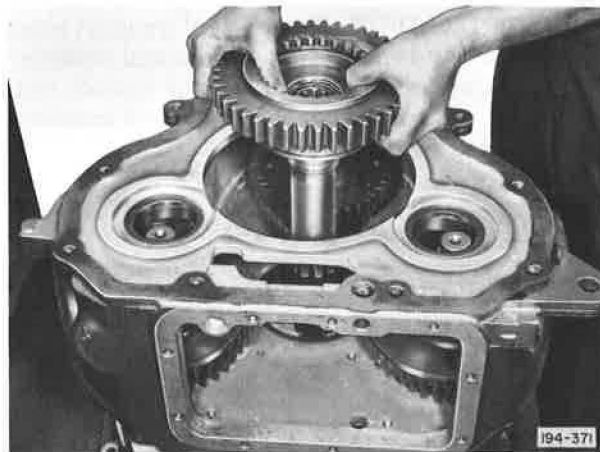

Figure 5-161. Installing Compound Main Driving Pinion
8. (TRDXL1070) Install compound main driving pinion in compound case. See Figure 5-161.